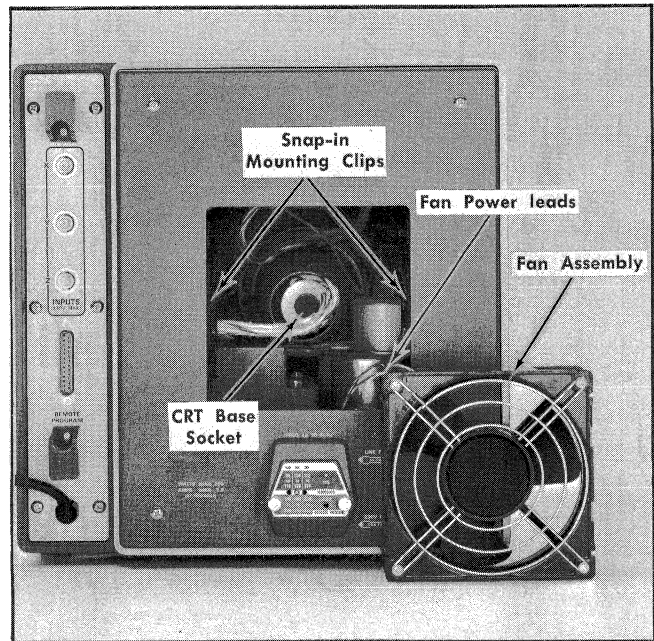

Fig. 4-8. Fan Assembly removed from the fan snap-in mounting.
4. Depress the opposite holding clip while pulling the fan assembly to the rear. When the fan assembly is free of the holding fingers of both clips, it may be pulled free of the snap-in mounting through the ventilation opening to the length of the power lead (see Fig. 4-8).
5. Disconnect the CRT base socket by pulling the socket straight back (see Fig. 4-8).